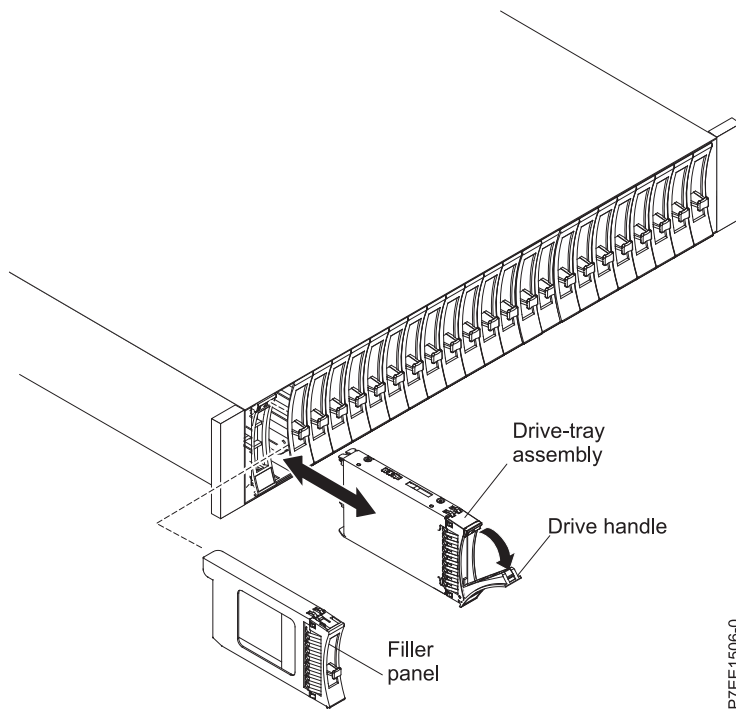

Figure 36. Removing a drive from the 5887 disk drive enclosure
5. Grasp the front of the drive and pull it out from the slot, ensuring that you support the bottom of the drive, as shown in Figure 36 on page 36.